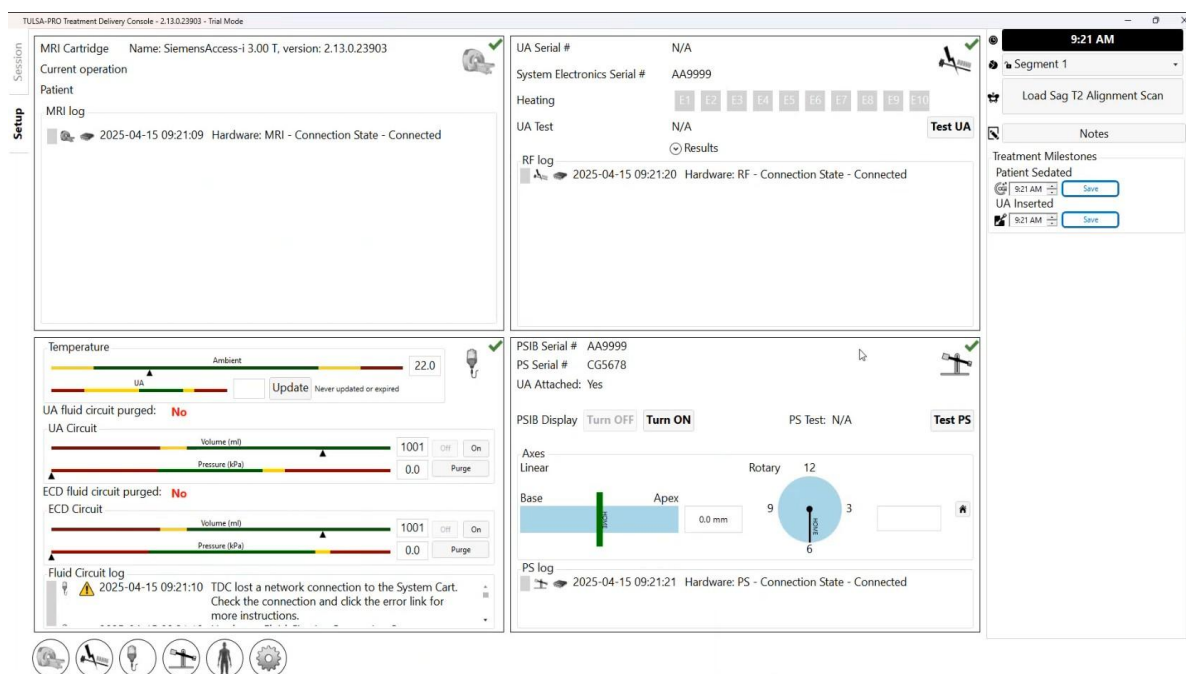

Figure 7: Setup workspace of the TDC software
3. After selecting **New Session**, you will enter the **Setup Workspace** (*Figure 7*) where you can ensure all equipment is functioning properly before proceeding.